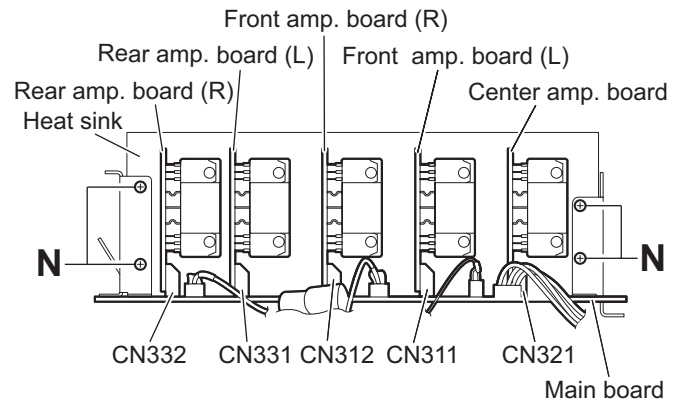

Fig.12
- (2) Remove the four screws **N** attaching the heat sink. (See Fig.12)
- (3) Disconnect the center amp. board from the connector CN321 on the main board. (See Fig.12)
- (4) Disconnect the front amp. board (L) from the connector CN311 on the main board. (See Fig.12)
- (5) Disconnect the front amp. board (R) from the connector CN312 on the main board. (See Fig.12)
- (6) Disconnect the rear amp. board (L) from the connector CN331 on the main board. (See Fig.12)
- (7) Disconnect the rear amp. board (R) from the connector CN332 on the main board. (See Fig.12)